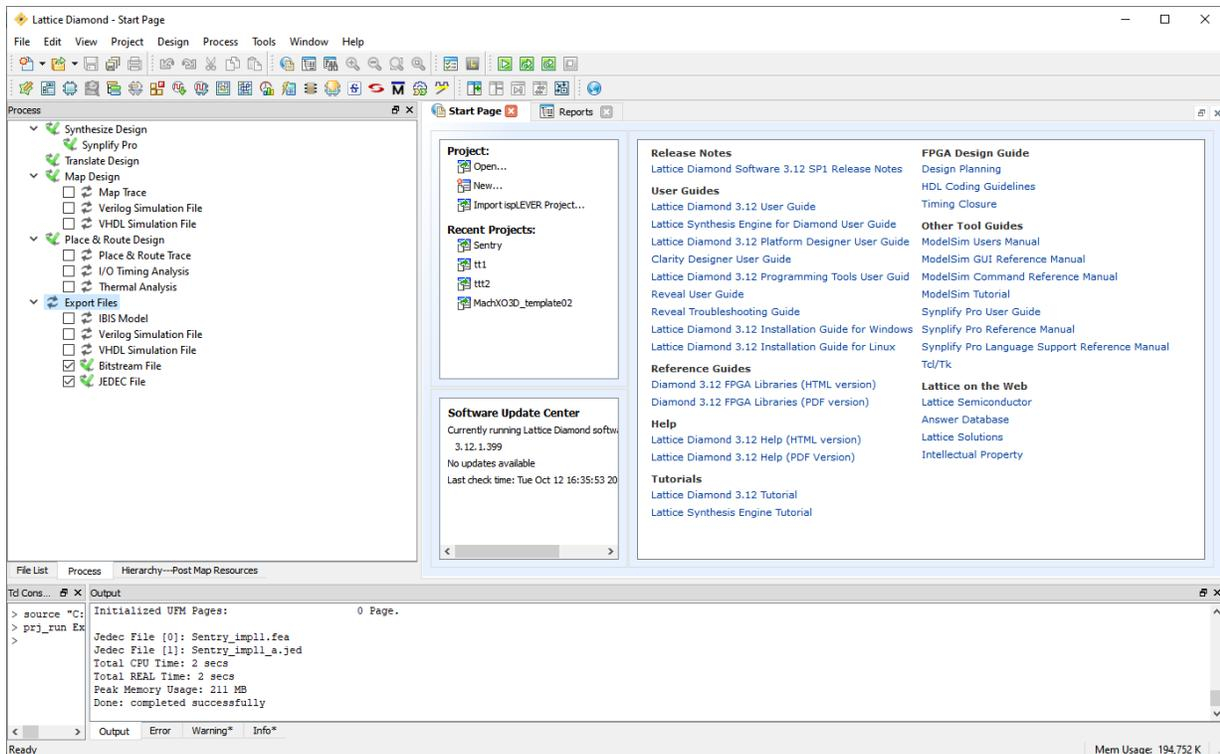

Figure 2.77. Generate Programming Files
- b. Switch to **Process** view of the Diamond project (Figure 2.77). Make sure at least one programming file (bitstream File or JEDEC file) is selected in the **Export Files** section. Available programming files can be different upon specific device included.